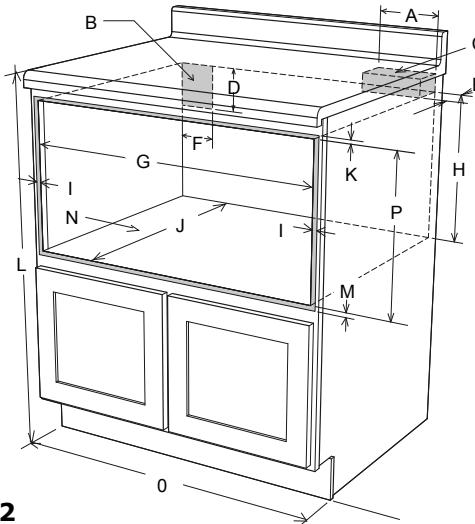
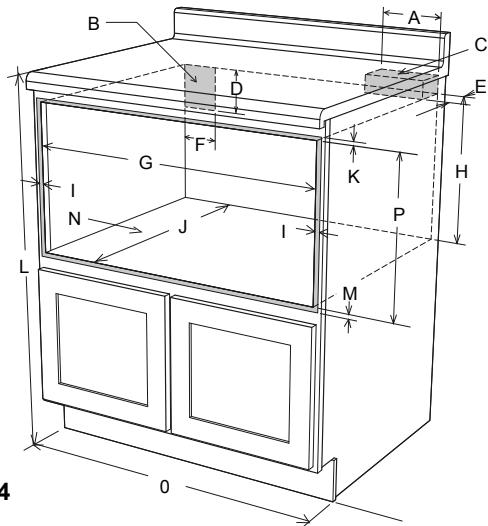

Figure 2
Figure 4
For SAFETY CONSIDERATIONS do not install the drawer in any combustible cabinetry, which is not in accord with the stated clearances and dimensions on pages 3, 4 and 5. See **Figure 2** (for 24") or **Figures 4** and **5** (for 30").
- Dimensions that are shown in **Figures 2, 4** and **5** must be used. Given dimensions provide minimum clearance. Locate the electrical outlet in the shaded area in the upper left-hand corner of the cutout. See **Figure 8**.
To reduce the risk of tipping the drawer, the anti-tip block must be properly installed 14 $\frac{13}{16}$ " above the floor cutout. The 6" anti-tip block must be provided by the installer. See **Figures 2 and 6** for (24") or **Figures 4, 5, and 6** (for 30"). The anti-tip block prevents serious injury that might result from spilled hot liquids.